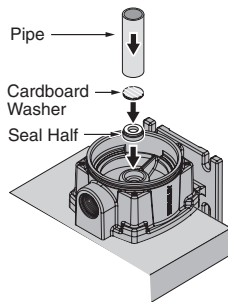

Figure 22
1. Turn the bracket pump side up on the bench. You will need to block it up to do this (See Figure 22).